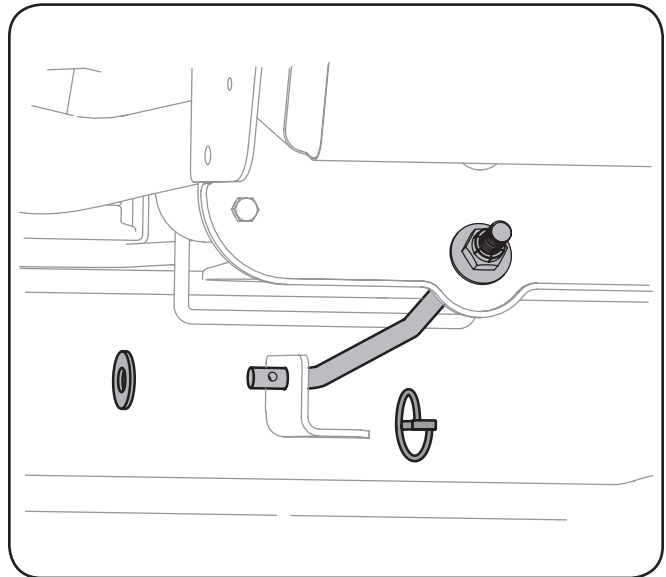

Figure 7-5
10. Remove the cotter pin from the end of the stabilizer rod and slide the stabilizer out of the hanger bracket on the deck. See Fig. 7-5.
- a. With the deck beneath the mower frame, attach the stabilizer rod. See Fig. 7-5.